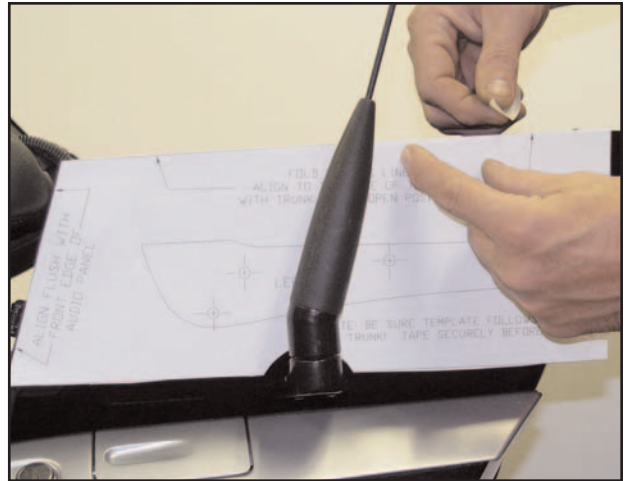

Figure 4
5.2. Open trunk lid. Tape Left Template at top as in instruction on template. **Figure 4.**